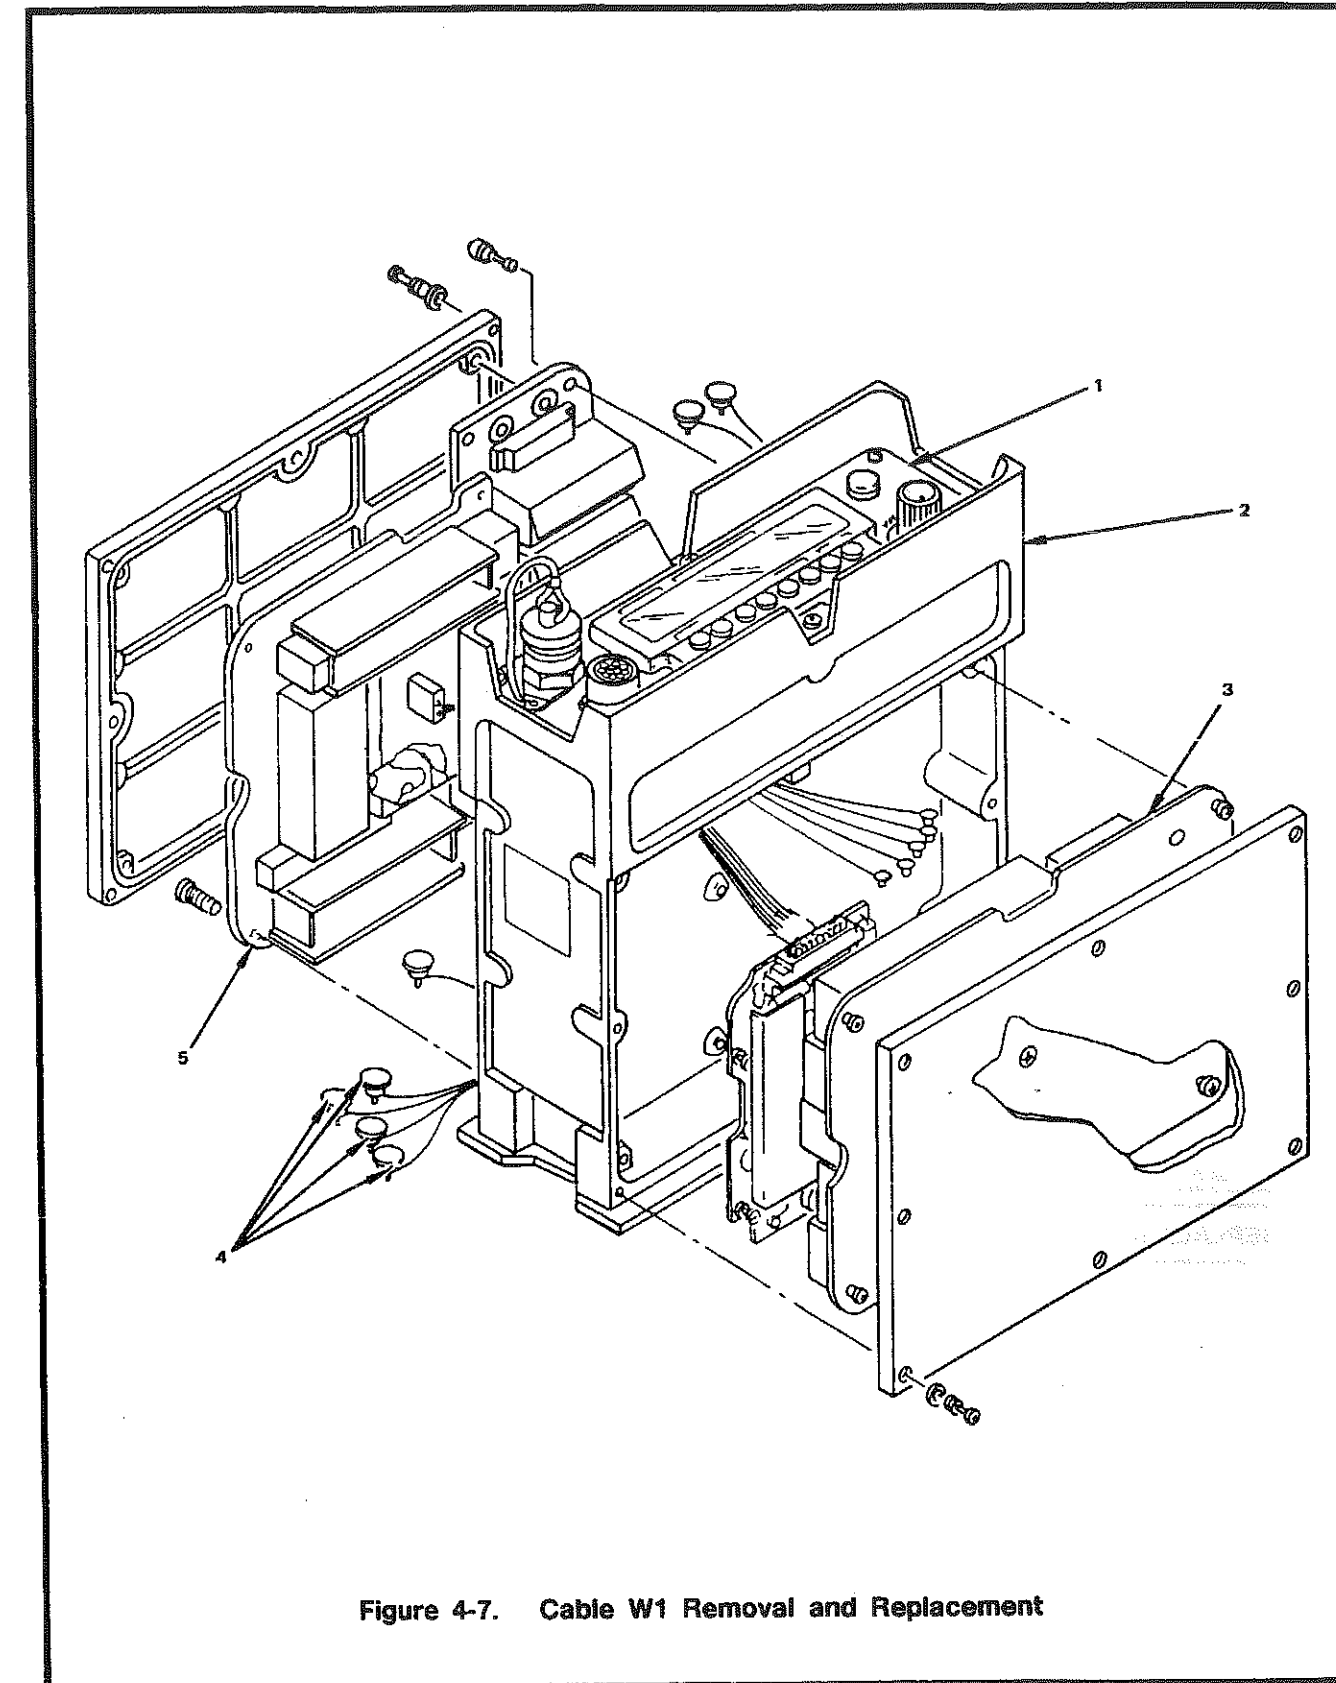

Figure 4-7. Cable W1 Removal and Replacement
**CABLE W1 REMOVAL AND REPLACEMENT, fig 4-7****INITIAL SETUP**